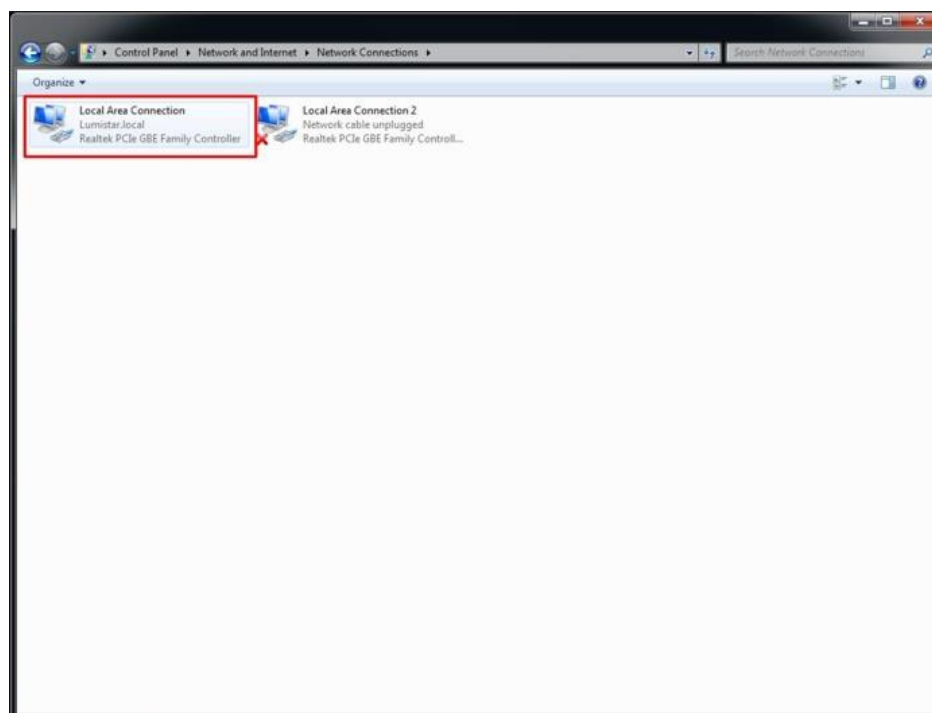

Figure 2-2 Windows Network Connections Page
Step 5: The Network Connections window shows the available connections the target host can use. Right-click on the local area connection attached to the LS-28-DRSM and select "Properties". See Figure 2-2.